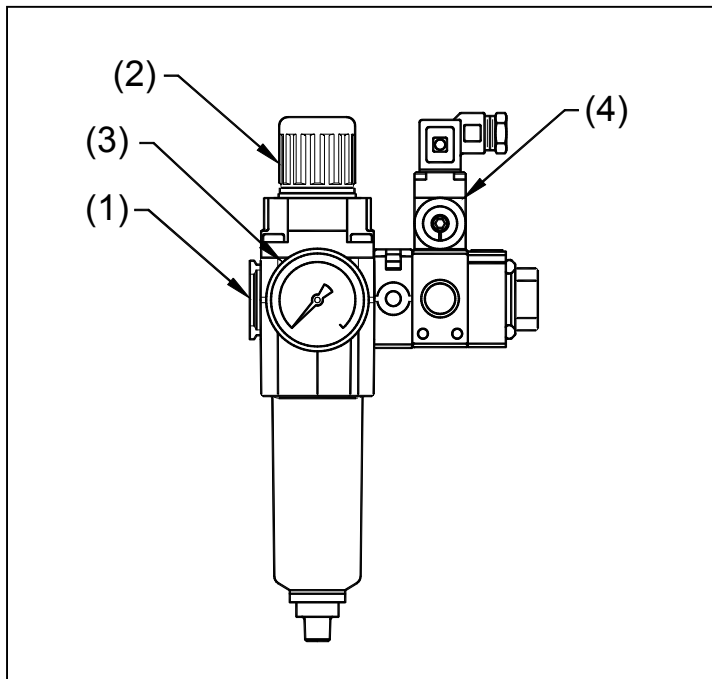

Fig. 2: Filter-Regulator/Pressure switch assembly
1. Filter-Regulator/Pressure switch assembly (Ref. Fig. 2): For supply air filtration, regulation and protection, the Series 170 provides as a standard a filter-regulator/pressure switch assembly.
- a. Filter (1): (5-micron element, auto-drain, and polycarbonate bowl).
- b. Regulator (2): Relieving, 0-160 psig gauge (3) (Factory preset at 70 psig.)
- c. Pressure switch: (4), Provides verification of air supply. (Switch is preset from factory at 50 PSIG).